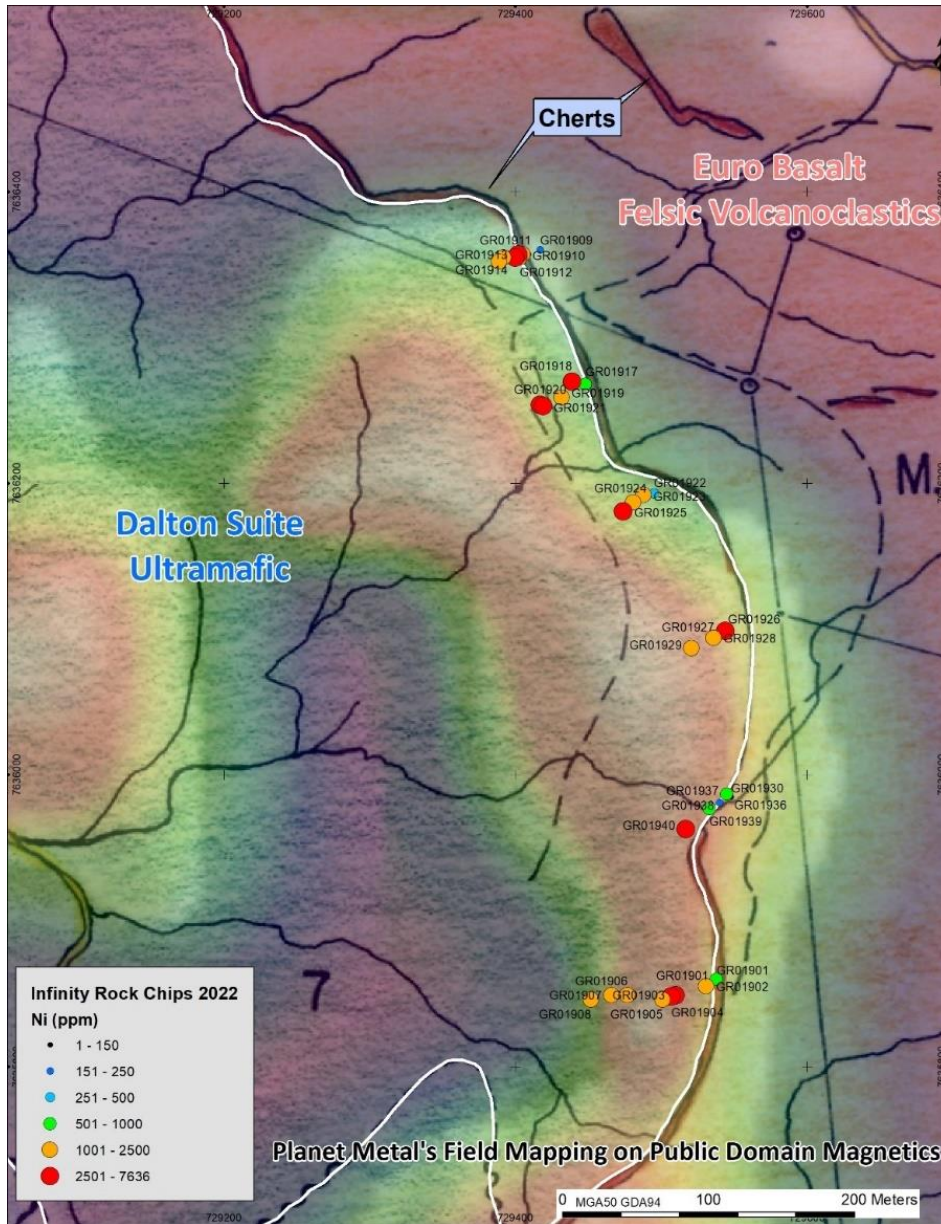

Figure 5. Infinity's Rock Chip Sampling Ni Assays on TMI magnetic image and mapped geology (Planet Metals, 1971, see JORC table)
A reconnaissance exploration program was carried out at the Brisbane Nickel Prospect by Infinity in 2022. The reconnaissance program confirmed the presence of a large Mg-rich ultra-mafic body (peridotite), with gossanous and silicified shear zones plus gossanous cherts along the peridotite contact. No sulphides were seen at surface due to strong weathering but strong iron and manganese rich gossans were observed. Thirty-five (35) rock chip samples were taken over the contact zones and out onto the ultra-mafic, see **Figure 5**. The samples were sent to Jinning Testing Laboratories in Perth for analysis. Assay results returned up to 7,636 ppm (0.764%) Ni, 8,918 ppm (0.892%) Cr and 2,569 ppm (0.257%) Zn, see **Table 1**. These results confirm the anomalous Ni-Cr geochemistry recorded by Planet Metals.